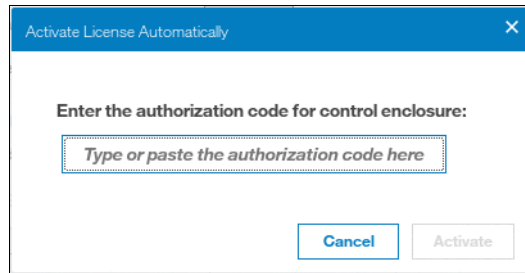

Figure 13-12 Encryption license Activate License Automatically window
- Select **Activate License Automatically**, the Activate License Automatically window opens, as shown in Figure 13-12 on page 716.